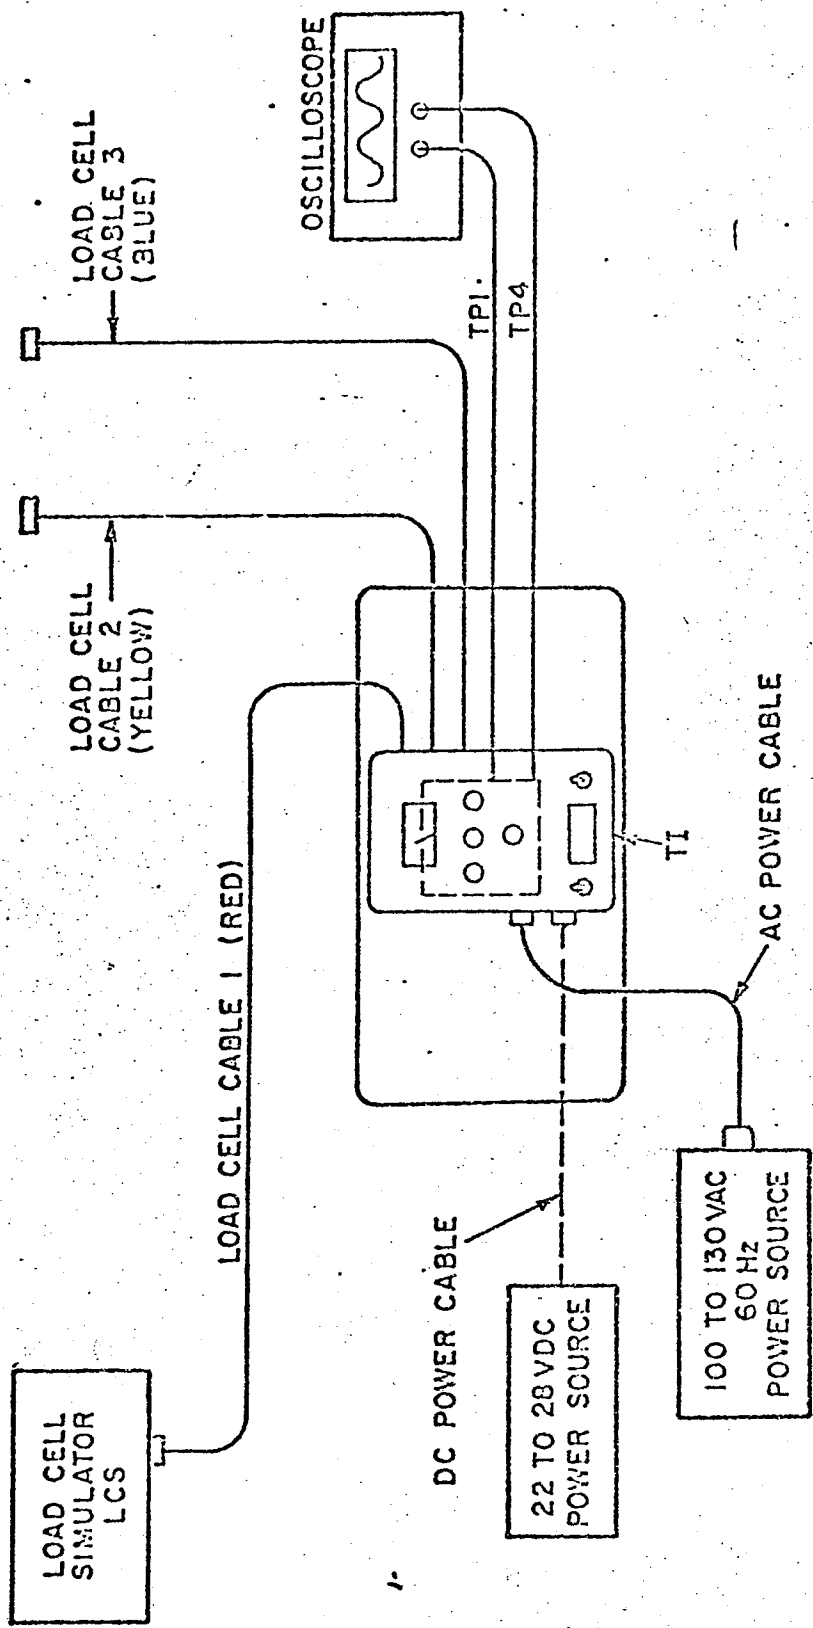

Figure 1. Load Simulated Test Setup
4.1.1.2 Connect equipment as shown in Figure 1, with TI load cell cable 1 connected to the load cell simulator (LCS), and the oscilloscope connected between TP1 and TP4 (case ground) on the TI printed circuit board.